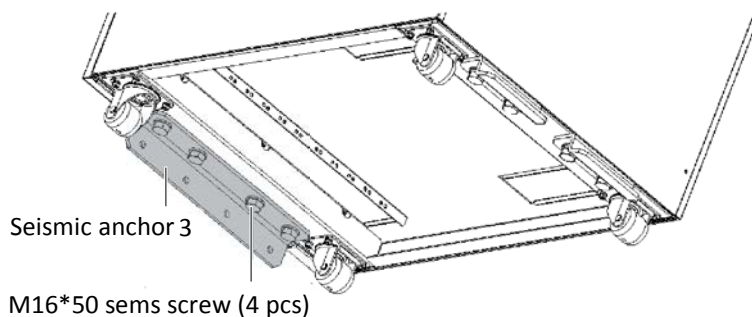

Figure 8-17 Installing seismic anchor 3
3. Use four M16 × 50 sems screws to install seismic anchor 3 on the front bottom of the UPS cabinet, as shown in Figure 8-17; then carefully place the UPS cabinet on the ground.